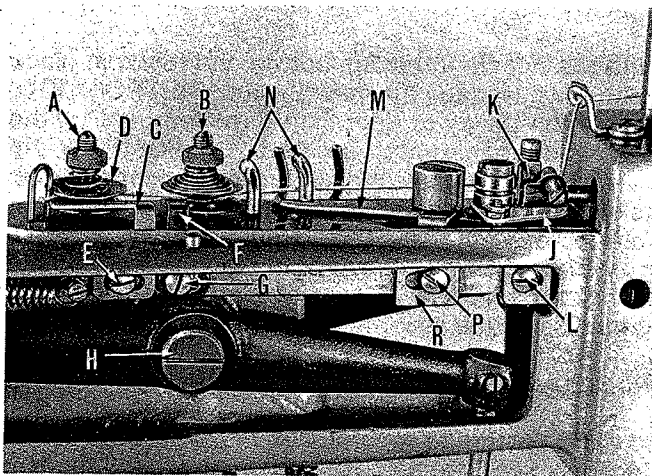
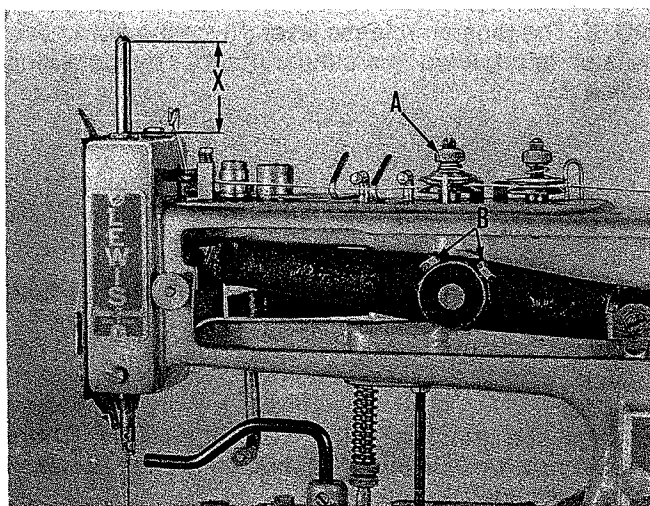

Fig. 28
Fig. 29
The main thread tension (A, Fig. 28) located behind the automatic tension (B) determines how tight the button is sewn. The amount of tension applied to the thread will vary relative to the type of thread, material and the thickness of the button used. Normally, only a light tension is required.
Thread the machine according to the Threading Diagram. Engage the machine into RUN POSITION and rotate the pulley two complete revolutions in operating direction. The tension release lever (C, Fig. 28) should be located as close as possible to the tension discs (D) of the main tension assembly (A) without making contact.
The thread nipper (J, Fig. 28) should pinch and hold the thread tight while it is being cut.
At the end of the stitching cycle, the thread pull-off lever (M, Fig. 28) should pull enough additional thread from the spool to form the first stitch of the next cycle.
Engage the machine into RUN POSITION and pull the thread taut against the thread guides (N, Fig. 28). The pull-off lever (M) should not contact the thread. Turn power "ON" and sew several buttons on scrap material. The pull-off lever is set correctly when a length of thread  $1/4$  inch (6.3 mm) to  $3/8$  inch (9.5 mm) remains on the underside of the fabric at the right hole of a two hole button; or the right rear hole of a four hole button.
Turn the tension nut (A, Fig. 29) down four or five turns. The automatic tension should release the thread when the needle bar, on its upstroke, has risen so that the lower edge of the beveled top is DIMENSION "X" (Fig. 29) above the upper needle bar bushing. DIMENSION "X" is determined by the length of the needle used as follows:
Rotate the pulley in operating direction so that the needle bar has risen to correspond to the proper DIMENSION "X". Loosen the two hexagonal head screws (B, Fig. 29) in the needle lever hub and rotate the shaft (H, Fig. 28) until the upper tension disc begins to rise. Tighten screws (B, Fig. 29).
NOTE: This is an extremely important adjustment and should be re-checked. If large loops exist on the underside of the fabric apply more tension by turning nut (A, Fig. 29) down.